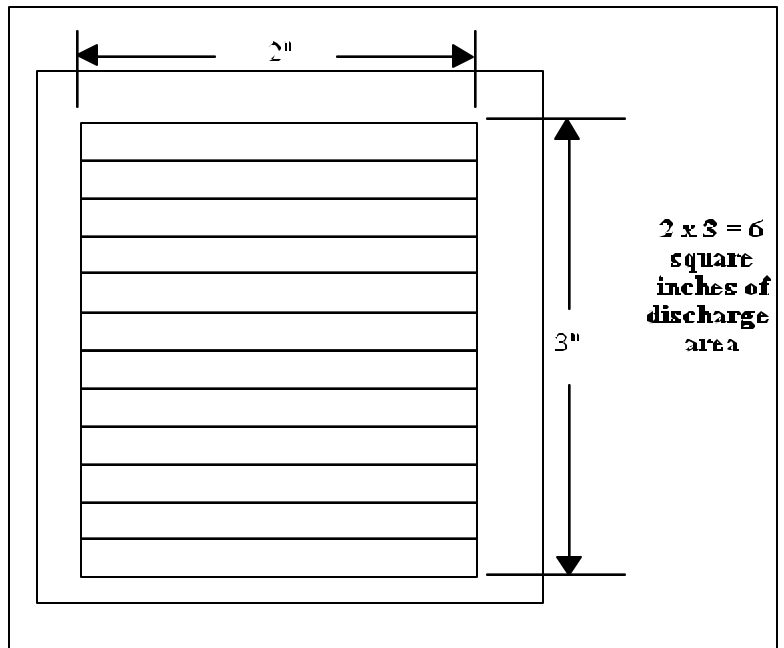

FIGURE 3
1. Supply registers should have a minimum discharge area of 48 square inches per system, or 24 square inches per duct. Figure 3 shows how to determine the discharge area for a given register, and how to determine the number of registers required.
The register in Figure 3 provides 6 square inches of discharge area. Each duct would require four registers of this size to satisfy the 24" requirement.